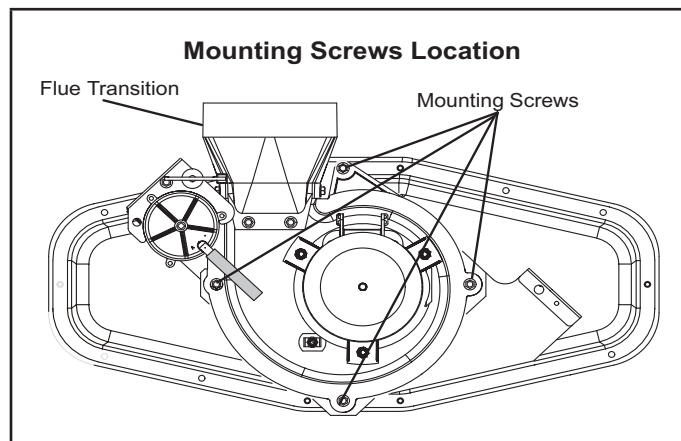

Figure 15
- 1 - Remove the four mounting screws (figure 15) which secure the combustion air inducer / pressure switch assembly to the orifice plate. Lift the assembly and rotate it 90 degrees clockwise or counterclockwise to either the 3 o'clock position or to 9 o'clock position. Resecure with four screws. Gasket should be left in place.